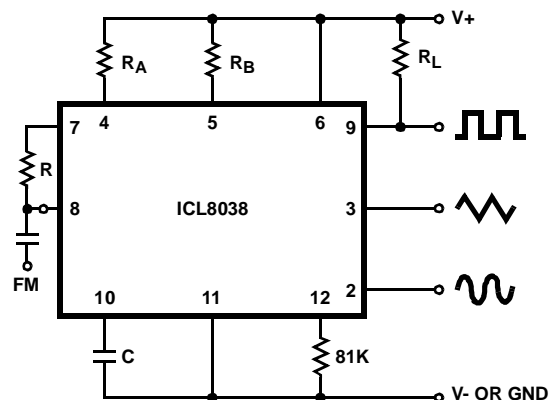

FIGURE 5A. CONNECTIONS FOR FREQUENCY MODULATION
- $V_{\text{SUPPLY}} = 20\text{V}$ ;  $R_A$  and  $R_B = 10\text{k}\Omega$ ,  $f \cong 10\text{kHz}$  nominal; can be extended 1000 to 1. See Figures 5A and 5B.
The frequency of the waveform generator is a direct function of the DC voltage at Terminal 8 (measured from  $V+$ ). By altering this voltage, frequency modulation is performed. For small deviations (e.g.  $\pm 10\%$ ) the modulating signal can be applied directly to pin 8, merely providing DC decoupling with a capacitor as shown in Figure 5A. An external resistor between pins 7 and 8 is not necessary, but it can be used to increase input impedance from about 8kΩ (pins 7 and 8 connected together), to about  $(R + 8\text{k}\Omega)$ .